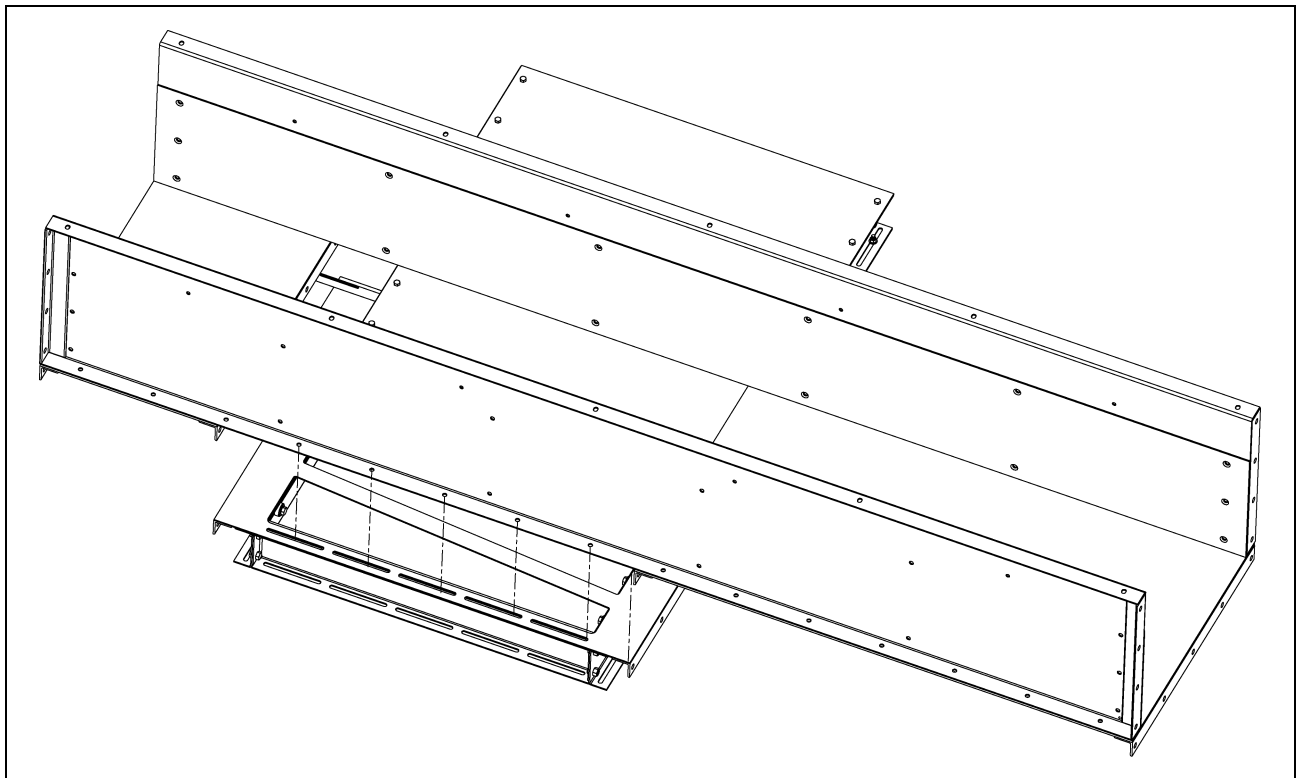

Figure 3J
6. On the sides of the gate frame, there are some duplicate holes in the open portion of the gate that need to be sealed with silicone. (See Figure 3J.)